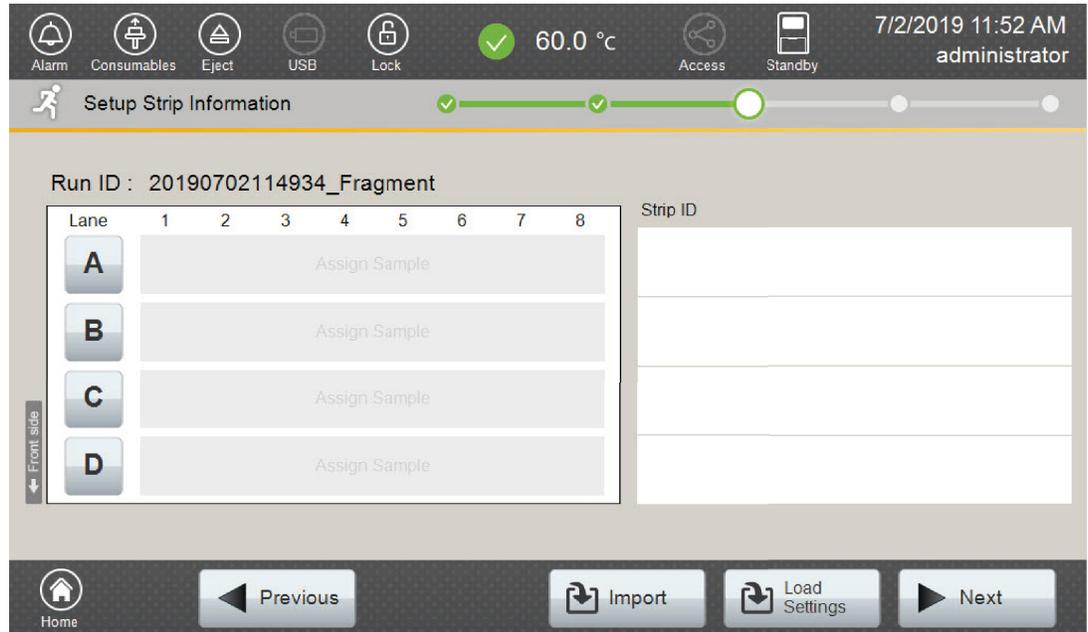

Figure 10. 'Setup Strip Information' screen.
1. Select **Next** on the 'Setup the Strip' screen shown in Figure 9. This will take you to the 'Setup Strip Information' screen shown in Figure 10.